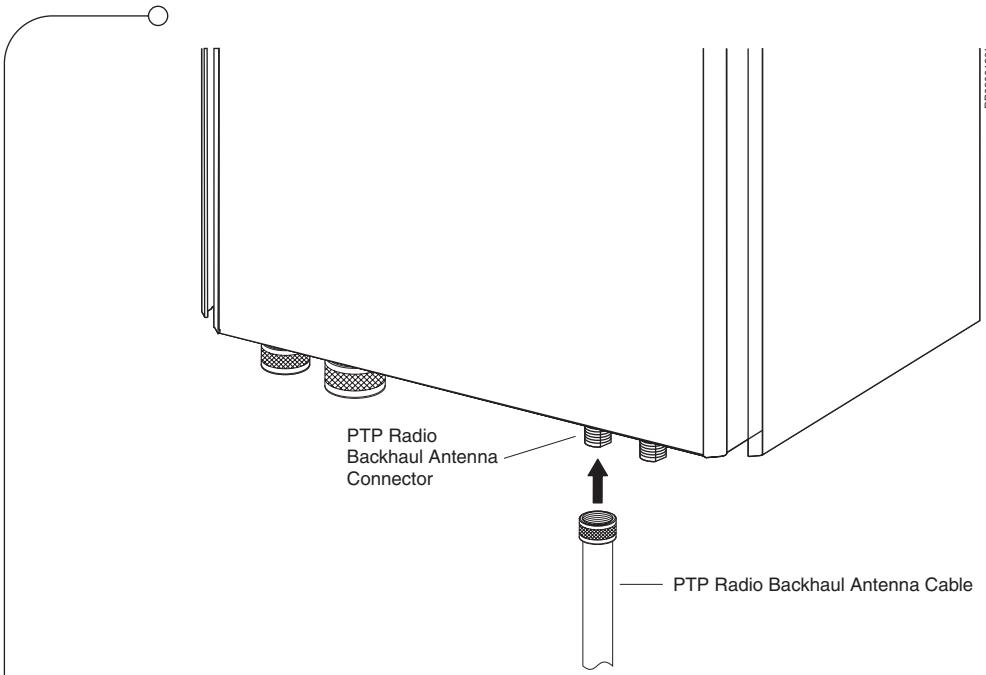

Figure 3.13 Antenna Cable Connection
- ▶ Connect the Antenna Cable to the PTP Radio Backhaul Antenna Port on the bottom of the SBS cabinet, as shown in Figure 3.13 on page 45.